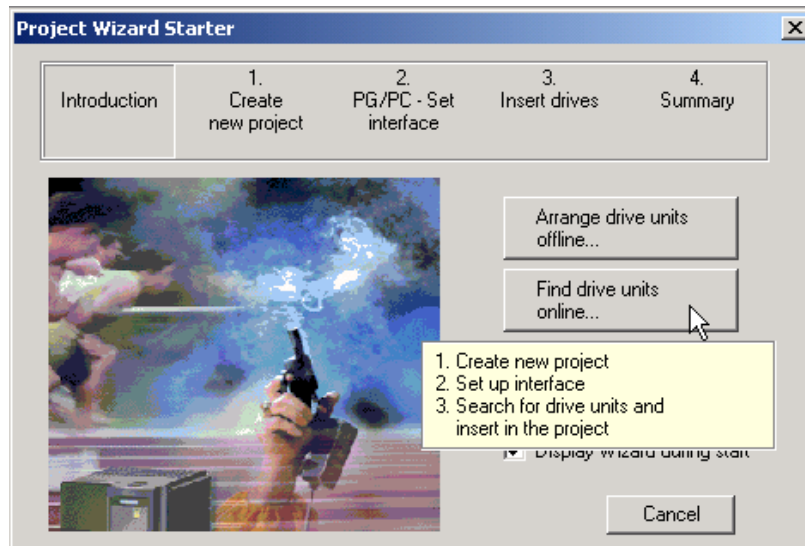

Fig. 5-1 Project Wizard Starter
2. Choose **Find drive units online...** (see Fig. 5-1).